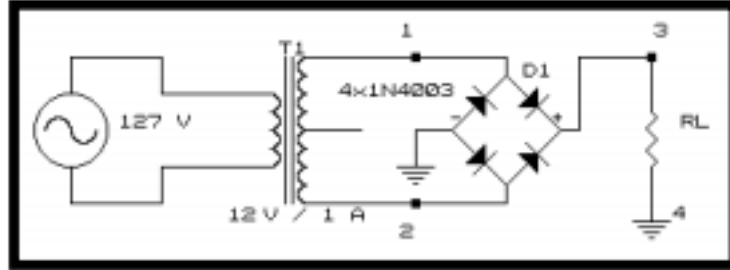
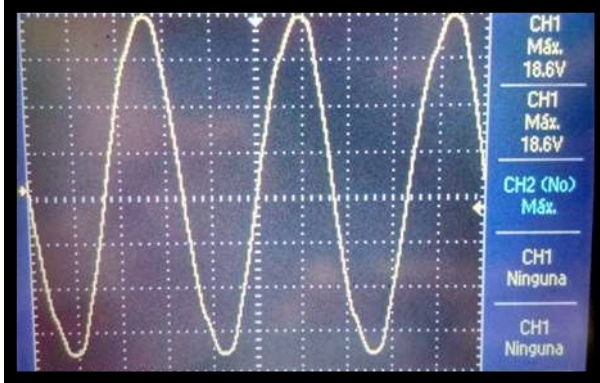
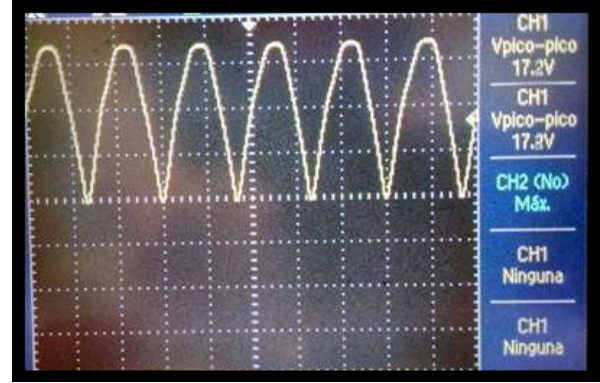

Figure 3.6.0: Full-wave bridge-network rectifier.
Figure 3.6.1: Transformer output signal.
Figure 3.6.2: Full-wave rectified signal.
Using the  $100\Omega$  resistor as  $R_L$  and four 1N4003 diodes, the circuit of the Figure 3.6.0 was assembled.
For measure the signal before being rectified, we put the positive terminal of the voltmeter in the terminal 1 of the Figure 3.6.0 and the negative terminal of the voltmeter in the terminal 3 of the Figure 3.6.0. We will call this voltage  $V_T$  (Transformer Voltage).
In the same terminals ( 1 and 3 ), of the Figure 3.6.0, the terminals of the oscilloscope were connected same as the voltmeter. Now, as can we see in Figure 3.6.1, the signal isn't being rectified yet. To visualize the rectified signal, the terminals of the oscilloscope were connected to the terminals 2 and 3 of the Figure 3.6.0. Now, as we can see in Figure 3.6.2 the signal is rectified from A.C to D.C. Now there's no negative voltage.
To measure the voltage in  $R_L$ , its necessary to connect the positive terminal of the voltmeter in the terminal 2 of the Figure 3.6.0 and the negative terminal of the voltmeter in the terminal 3 of the Figure 3.6.0. We will call this voltage  $V_0$ , also the resistor  $R_L$  will have a current, we will call it  $I_0$  and with Ohm's Law we can find it.
- *For  $V_p$  ( Peak Voltage ) of Figure 3.6.1:*
When the terminals of the oscilloscope are connected to the circuit and the signal it's displayed on screen as Figures 3.6.1 shows. We will put the oscilloscope in the option *measures* and search for the option *Max Voltage*.
- *Finally,  $V_p - V_D$ , where  $V_p$  it's the peak voltage in Figure 3.6.1 and  $V_D$  it's the diode Voltage:*
Using basically the same circuit of the Figure 3.6.0, we are going to connect in parallel to the  $R_L$  **resistor** a **electrolytic capacitor**, this device will act like a filter. The voltage coming out from rectifiers is not smooth and a filter rectifier circuit is used to smoothen it for more stable constant DC voltage. We are going to be exchanging between two different capacitors, one of  $470\mu F$  and another of  $2200\mu F$ .